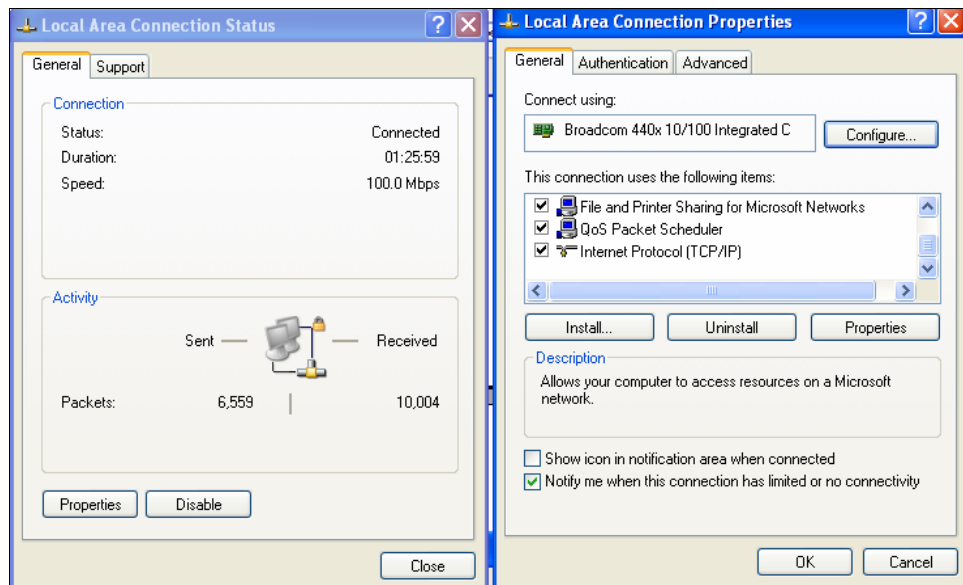

FIGURE 1-4: LOCAL AREA CONNECTION PROPERTIES DIALOGUE BOX
c) Click **General** → **Internet Protocol (TCP/IP)** → **Properties** (see Figure 1-4).